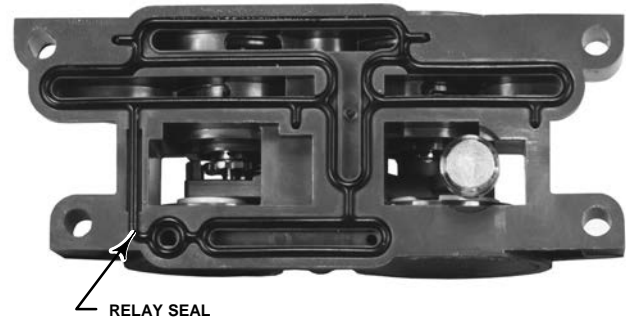

Figure 7-5. Pneumatic Relay Assembly
2. Apply silicone lubricant to the relay seal and position it in the grooves on the bottom of the relay as shown in figure 7-5. Press small seal retaining tabs into retaining slots to hold relay seal in place.